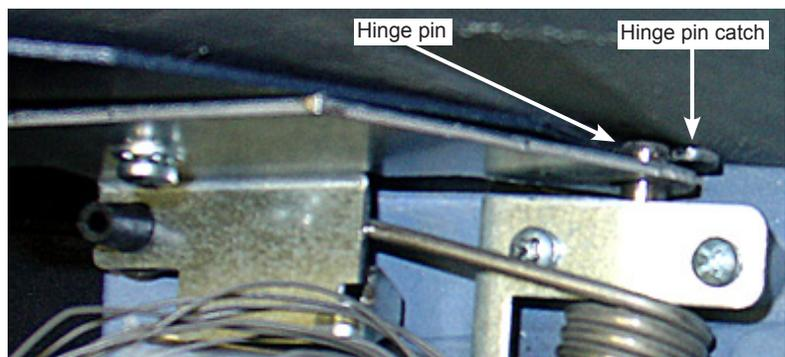

Figure 10. Location of the hinge pin catch on the side panel of the cabinet top enclosure
4. Refer to Figures 10 and 13. Slowly lift the control panel assembly up along the open face of the top cabi-